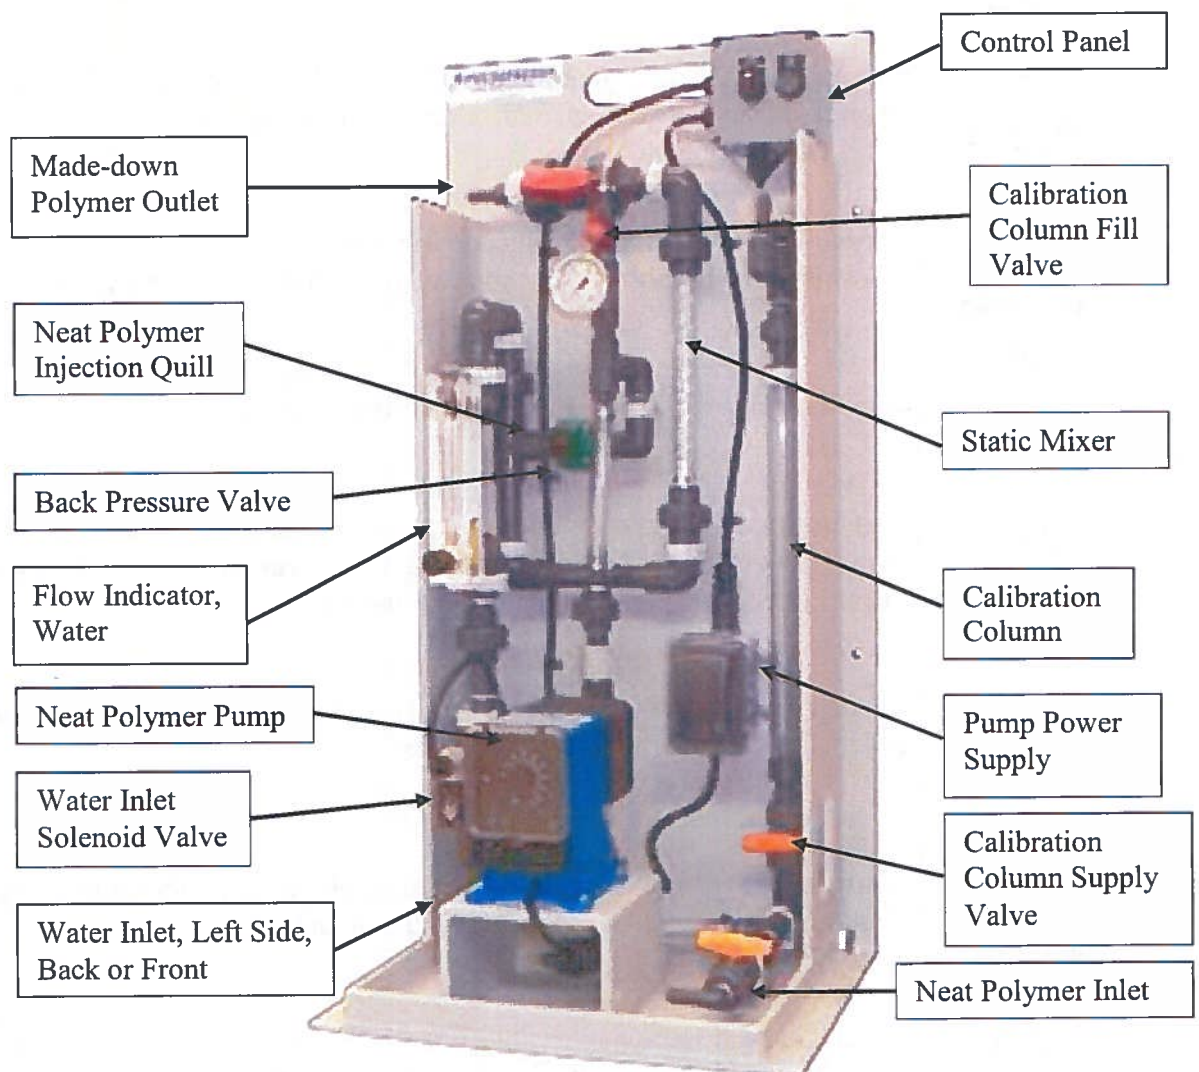

Figure 1
Figure 1, below, illustrates a static mixer polymer makedown system with integrated control. This system can be used for two different chemicals or for redundant pump operation with one chemical. Your skid system may be less complex than this. Note the various components and their descriptions as they apply to your system.
Securely attach the provided 3/4" x 1/2" diameter x 10' long tubing from the system's Made-down Polymer Outlet to the Day-tank's Made-down Polymer Inlet, on the hose barbs with the hose clamps provided; refer to Figure 1 on page 6. It is best to cut this tubing to the desired length prior to installation, and be sure to support the tubing adequately over its length as its weight will increase when filled with made-down polymer.
This line connects the source of the neat polymer to the Pulsafeeder Polymer Makedown System. Please refer to Figure 1 on page 6. The neat polymer source must be located above the centerline of the pump (flooded suction condition); ensure that the suction line has a gradual downward slope from the tank to the skid suction connection. The purpose of this is to prevent air pocket(s) in the suction line which could affect proper operation of the pump. Include whatever provisions you consider necessary to facilitate maintenance and operation such as isolation valve(s), drain and/or flush connections, etc., making sure that this sub-system enables **SAFE OPERATION**.
This line connects the Pulsafeeder Polymer Makedown System to your served process. Please refer to Figure 1 on page 6. If the injection point is below the dosing chemical source or if injecting into a low pressure area such as the suction of a pump, an anti-siphon/ back pressure valve should be located as close as possible to the injection point to prevent unwanted chemical feeding. Include whatever provisions you consider necessary to facilitate maintenance and operation such as isolation valve(s), drain and/or flush connections, etc., making sure that this sub-system enables **SAFE OPERATION**.
- **System Adjustment – Refer to Figure 1**